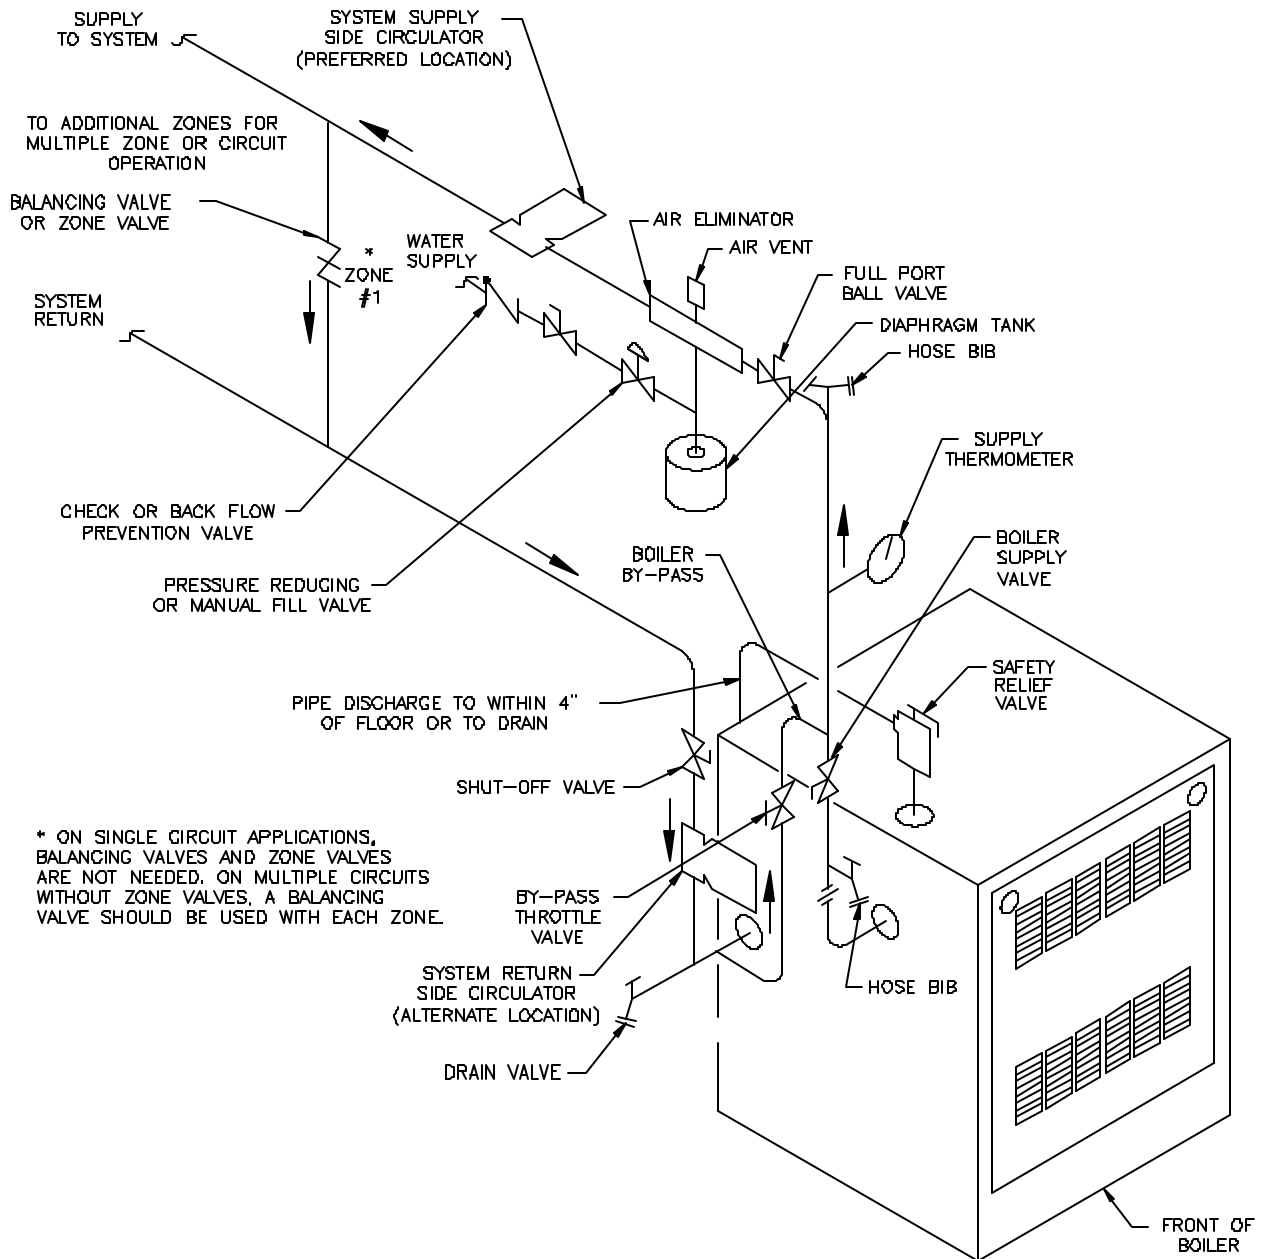

Figure 3: Recommended Boiler Piping For Series - Loop Hot Water Heating Systems
- B. Connect system supply and return piping** to boiler. See Figure 3. Also consult I=B=R Installation and Piping Guides. Maintain minimum ½ inch clearance from hot water piping to combustible materials.
- D. Install Safety Relief Valve.** See Figure 3. Safety Relief Valve must be installed with spindle in vertical position. Installation of the relief valve must be consistent with the ANSI/ASME Boiler and Pressure Vessel Code, Section IV.
Install pipe tee between circulator and boiler return along with second tee in supply piping as shown in Figure 3. Bypass should be same size as the supply and return lines with valves located in bypass and supply outlet as illustrated in Figure 3 in order to regulate water flow to maintain higher boiler water temperatures.